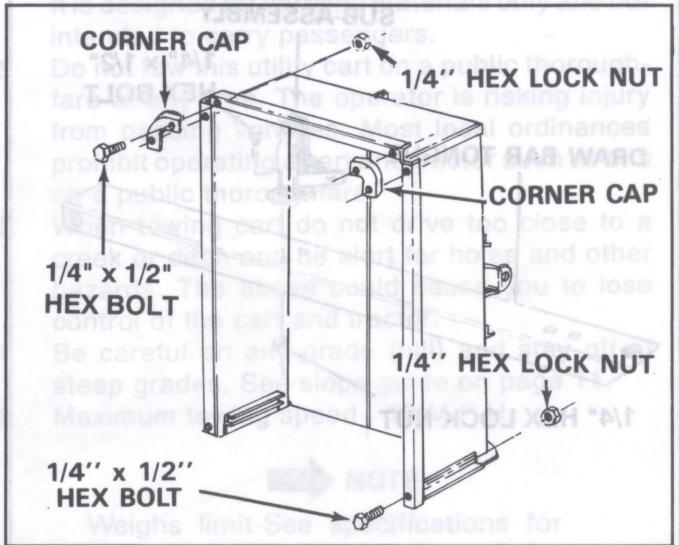

FIGURE 8
13. Assemble two front top corner caps and two bolts in top flanges through tailgate reinforcement bracket using $1/4'' \times 1/2''$ hex bolts and $1/4''$ hex lock nuts. See figure 8. Tighten all bolts.